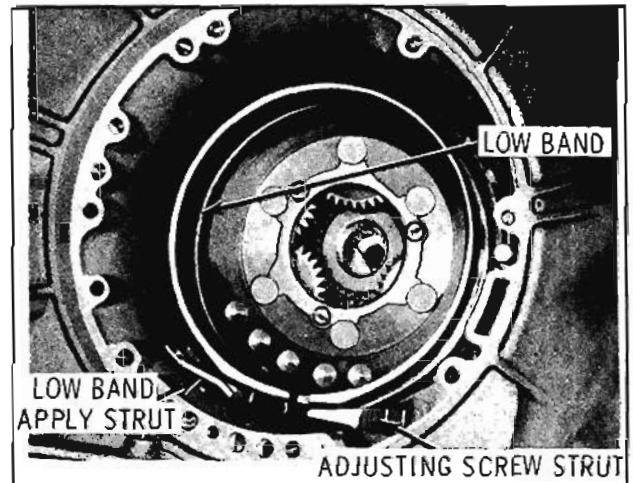

Fig. 6-276 Removing Low Band
1. Remove low band and struts from inside the case. (Fig. 6-276)